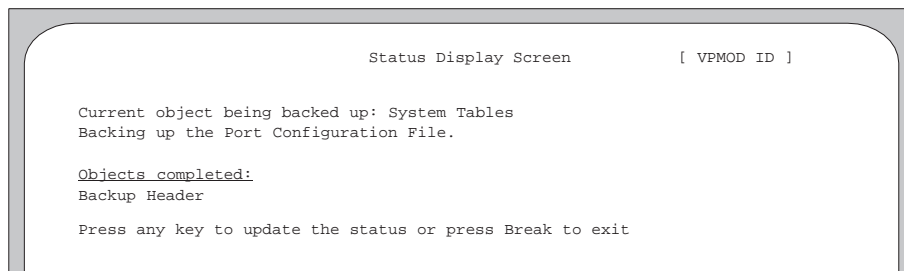

Figure A-43. Online Status Display Screen for Backup.
1. Select option **2** to display the status of the backup, as shown in Figure A-43.